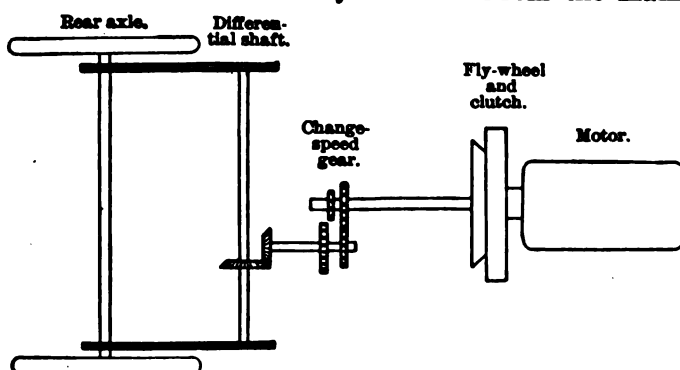

FIG. 71.—TYPICAL FRENCH SYSTEM OF TRANSMISSION TO "DEAD" REAR AXLE.
(1) By bevel-gears or chain to the counter-shaft set across the frame of the car and containing the differential gear. From each end of this counter-shaft there is a chain and sprocket to the wheels, which are set on a dead axle. This is the typical French system. (See Fig. 71.) The drive from the speed-gears may be: